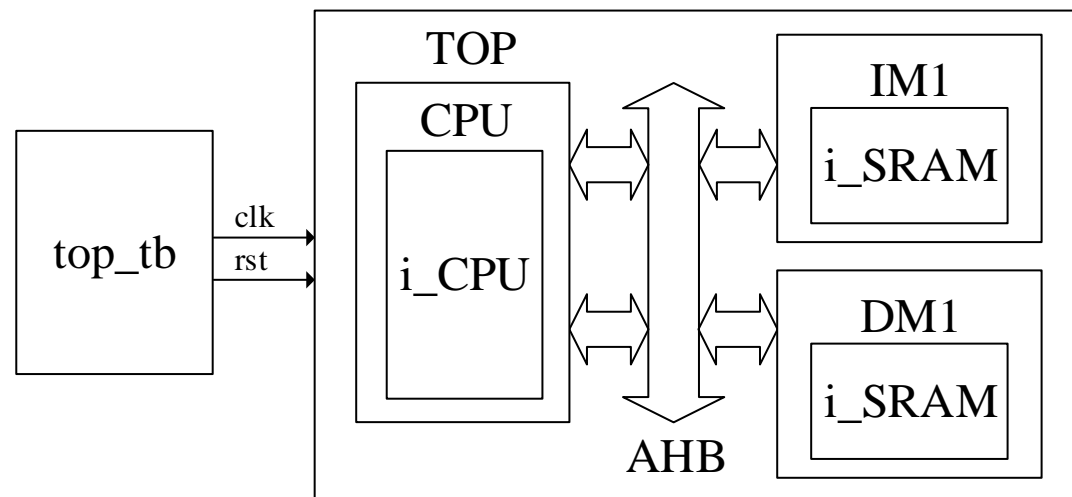

Fig. 2-1 Architecture of AHB with CPU and Memories
Combine AHB with your CPU in *Homework 1* to complete a mini system whose architecture is shown in Fig. 2-1.
- Connect the system as shown in Fig. 2-1. Your CPU should occupy two masters, one for instruction, and another for data. **IM must be Slave 1 and DM must be Slave 2. Start address of IM is 0x0000\_0000 and start address of DM is 0x0001\_0000.**